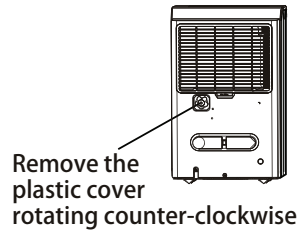
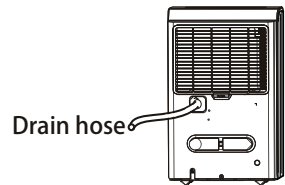

Fig. 8
Fig. 9
- Remove the plastic cover from the back drain outlet of the unit and set aside, then insert the drain hose through the drain outlet of the unit and lead the drain hose to the floor drain or a suitable drainage facility. (See Fig. 8 and Fig. 9)